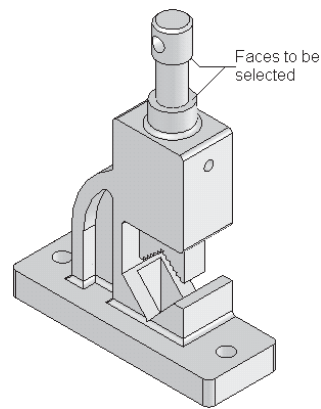

Figure 11-79 Faces to be selected
17. Next, select the faces as shown in Figure 11-79.